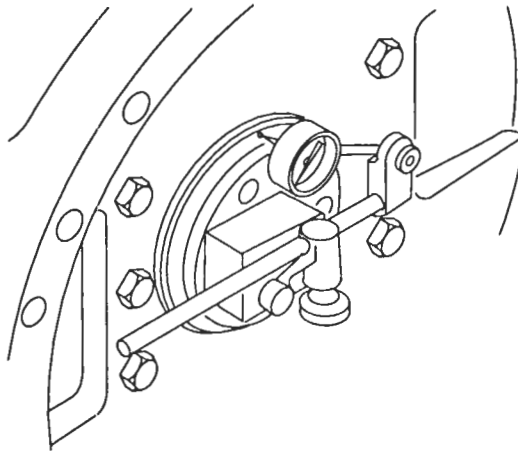

Figure 6. Checking Crankshaft Rear Seal Squareness
1. Attach magnetic base dial indicator J 7872 to the rear butt of the crankshaft (Figure 6.) Position the point of the dial indicator at the outer perimeter of the seal face. Rotate the crankshaft and note the seal face readings at the 12, 9, 6 and 3 o'clock positions. The total runout across the entire seal should not exceed 0.015 inches.